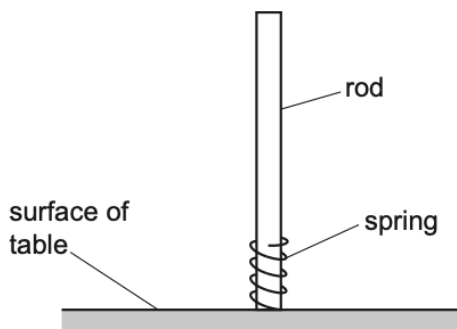

Fig. 3.1 (not to scale)
- 13 A vertical rod is fixed to the horizontal surface of a table, as shown in Fig. 3.1.